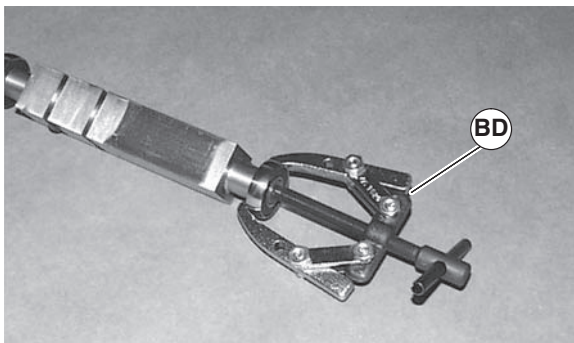

Figure 36
2. Use bearing removal tool (807-1078) (Figure 36, item BD) to remove bearings from idler and drive pulleys.